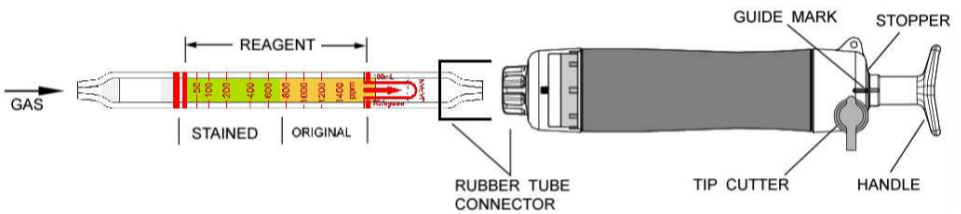

Fig.1
- ② Insert the detector tube into the aspirating pump securely as shown in Fig.1. (Arrow mark shall point to the pump.)
- ③ Align the guide marks on the shaft and stopper of the aspirating pump.
- ④ Pull the pump handle at a full stroke until it locks and wait for 1.5 minutes or until the completion of sampling is confirmed with the flow indicator of the pump. (See descriptions about the flow indicator in the instruction manual of the pump.)
- ⑤ On completion of sampling, read the scale at the maximum point of the stained layer.
- ⑥ Just in case of 2,2,4-Trimethyl pentane detection, if the discolouration is over the scale range, a 1/2 pump stroke can be used to determine concentrations of 200 to 4000ppm.